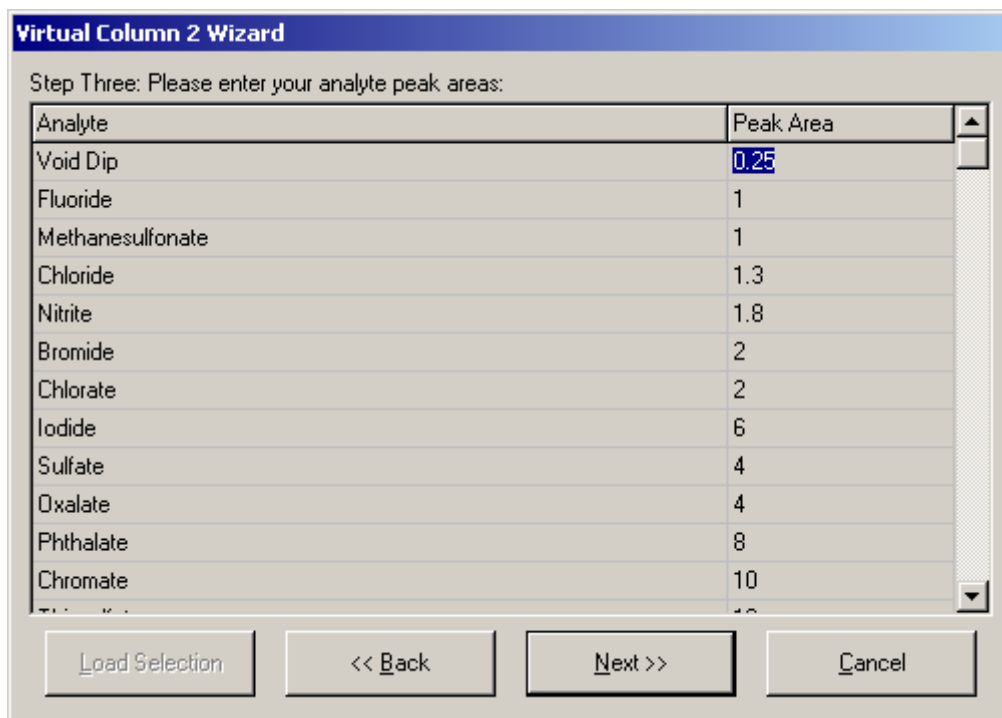

Figure 20. Virtual Column 2 Wizard Step Three.
- Change the Void Dip peak area to 0.25 (Figure 20).